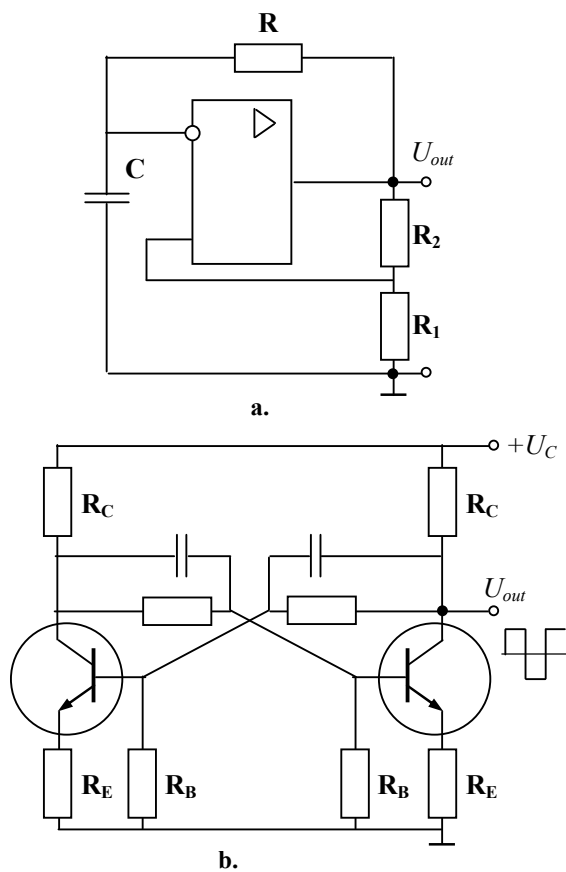

Fig. 2.54
**Astable multivibrators.** A *multivibrator* is a rectangle pulse generator with the positive feedback. A circuit diagram of an *astable multivibrator*, which has no stable state, is given in Fig. 2.54,a. It generates non-sinusoidal oscillations of determined frequency. Here, the op amp with positive feedback includes the capacitor  $C$  that is charged by the op amp output through the resistor  $R$ . When  $R_1 = R_2$ , the period of multivibrator is calculated as follows:
The same principle of operation has the astable multivibrator shown in Fig. 2.54,b. The circuit includes two interconnected transistor amplifiers. The input of the first amplifier is the output of the second one. Once the current of one transistor becomes higher the other, the voltage drop grows on the resistor of its collector. This change is transferred through the corresponding capacitor to the base of the other transistor so that the current grows increasingly up to the first transistor saturation and the second transistor closing. After stabilizing the transient, the capacitor discharges and opens the closed transistor. Then the process repeats, and the current of the second transistor becomes higher than in the first one. The oscillation frequency depends on the resistances of resistors  $R_B$  and on the capacitors.